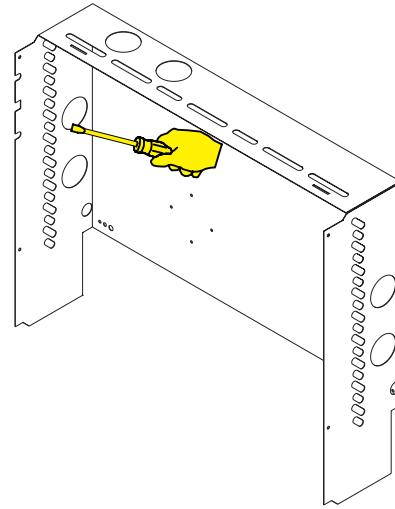

Figure 4
7. Determine flue pipe direction (left, right, or up) and remove the corresponding knock out. If installing the wall furnace in a direct vent configuration, remove both knock outs. **See Figure 4.**